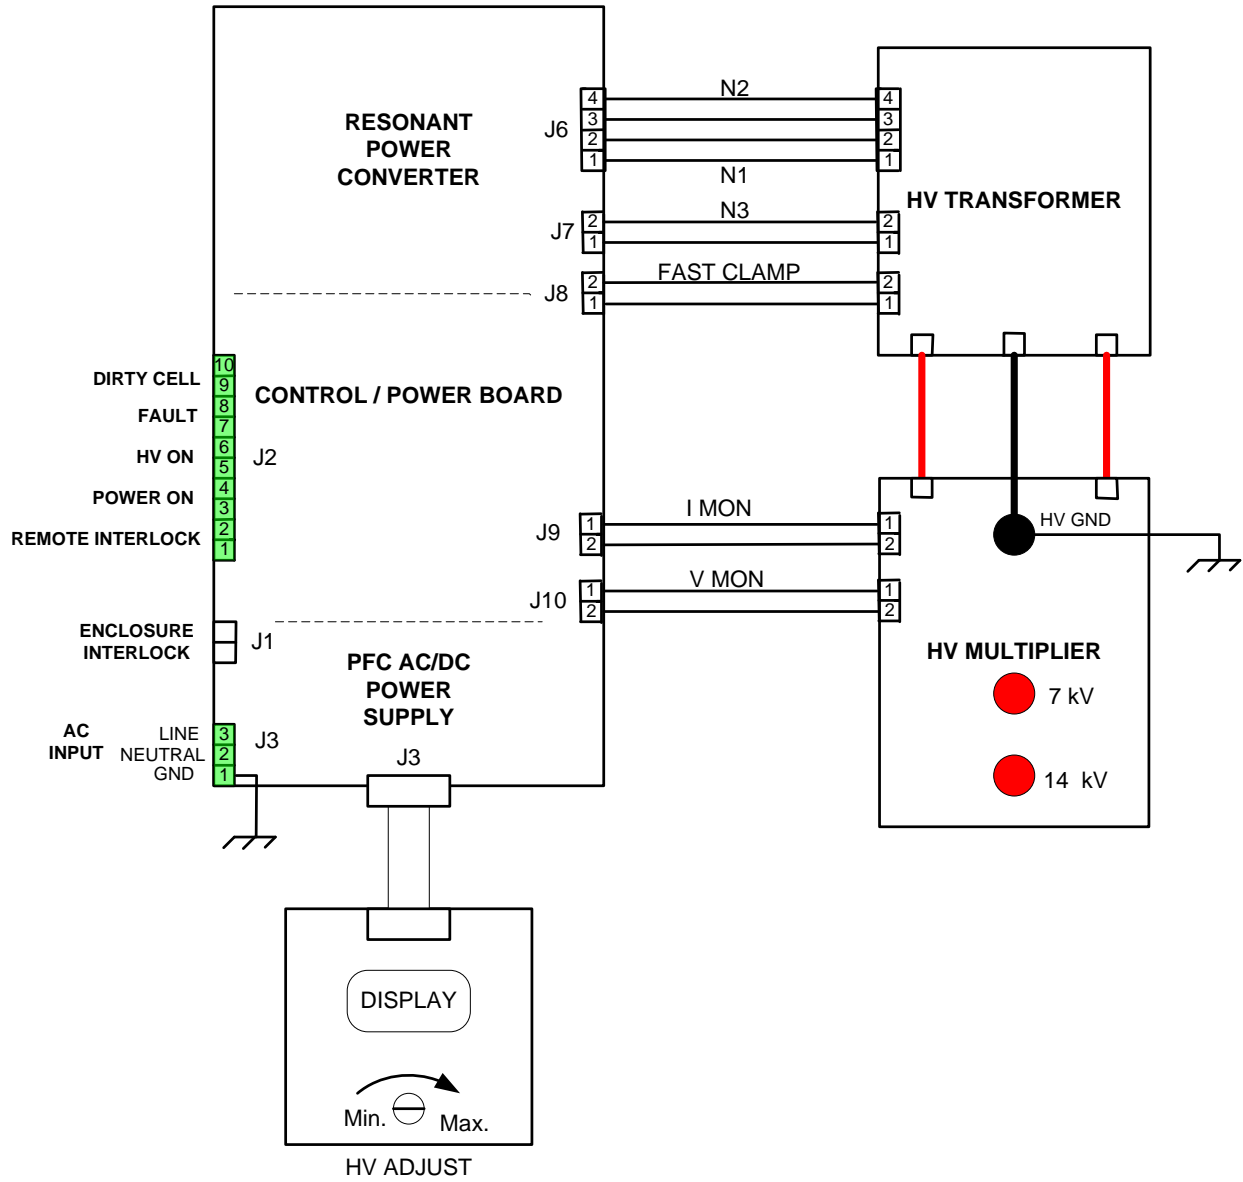

Fig.1 HV Supply wiring diagram
The block diagram of HV Power Supply is shown in Fig.1.
- Install the 3 pin plug and connect Line, Neutral and GND wires as shown in Fig.1
- Install the 10 pin plug and connect all monitoring lines as shown in Fig.1